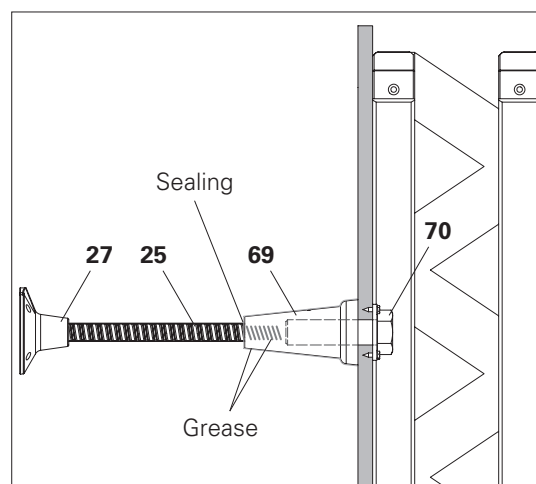
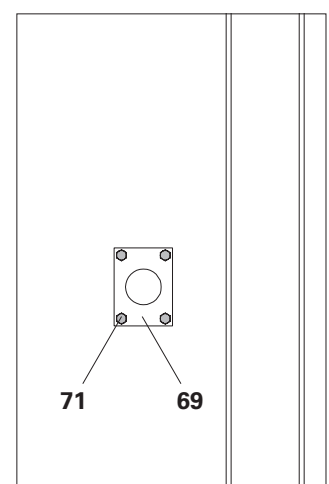

Fig. F2.01
Fig. F2.01a
- Ensure there is sufficient distance to the formwork girder. (Fig. F2.01a)
6. Screw Threaded Anchor Plate DW26 (**27**) onto Tie Rod DW26 (**25**). (Fig. F2.01 + Fig. F2.01a)